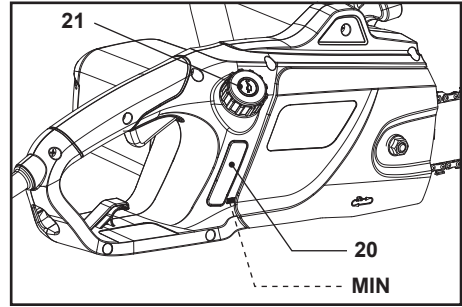

Fig. 3c
4. Check the oil level window (20) prior to start-up and regularly during operation. Refill oil when the oil level is lower than "MIN" marking (Fig. 3c).